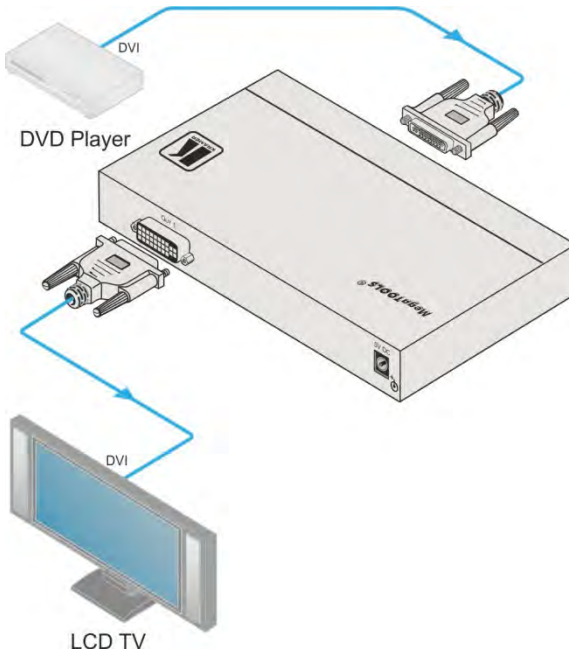

Figure 3: Connecting the VM-200HDCP 1:2 DVI Distributor
To connect the VM-200HDCP as illustrated in the example in Figure 3:
3. Connect the power adapter to the **VM-200HDCP** and to the mains electricity (not shown in Figure 3).